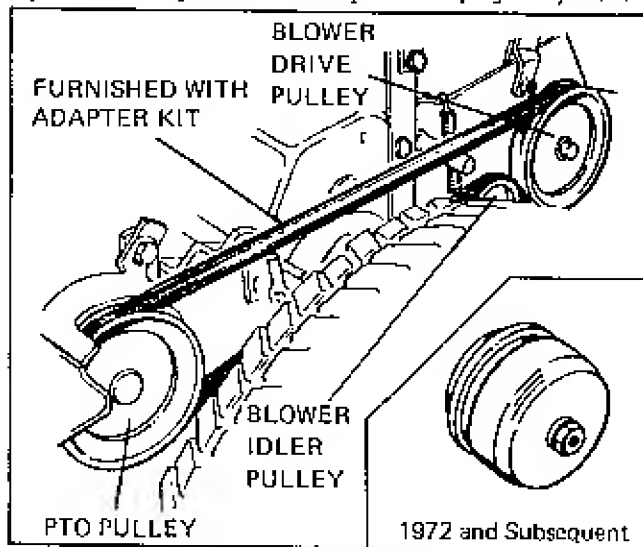

FIGURE 5
8. Place the pulley on the shaft of the bevel gear housing. The new pulley will be secured outboard of the P.T.O. pulley with the key and set screw provided. (Figure 5) Tractor
models 1972 and subsequent have pulley already installed as part of a double pulley assembly (See Figure 5 insert).
9. Place "V" belt (furnished with adapter kit) around the P.T.O. pulley. Run other end around the drive pulley and idler pulley which are mounted on the frame at blower. The spring on the idler pulley will automatically adjust belt tension. (Figure 5)